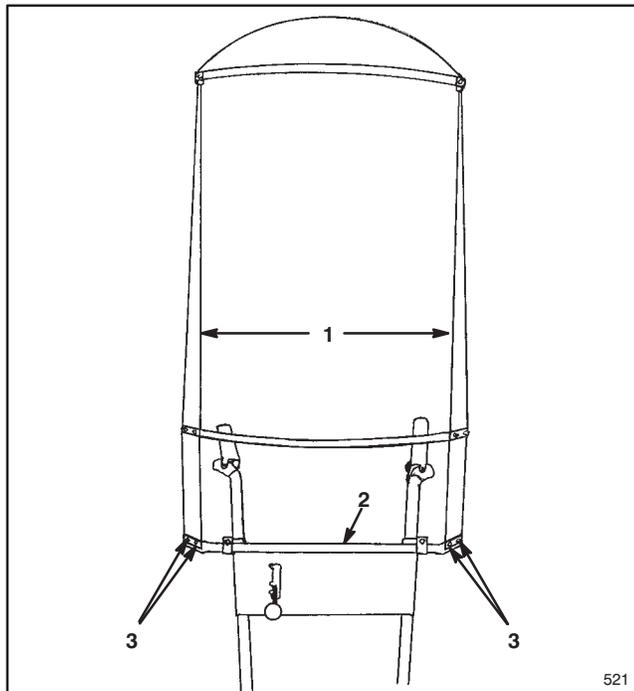

Figure 6
ATTACH SNOW CAB FRAME TO CROSS BAR ASSEMBLY (Fig. 6–8)
1. Place the assembled frame on the cross bar and secure it with four $\frac{1}{4}$ " x $\frac{5}{8}$ " bolts and $\frac{1}{4}$ " locknuts (Fig. 6).